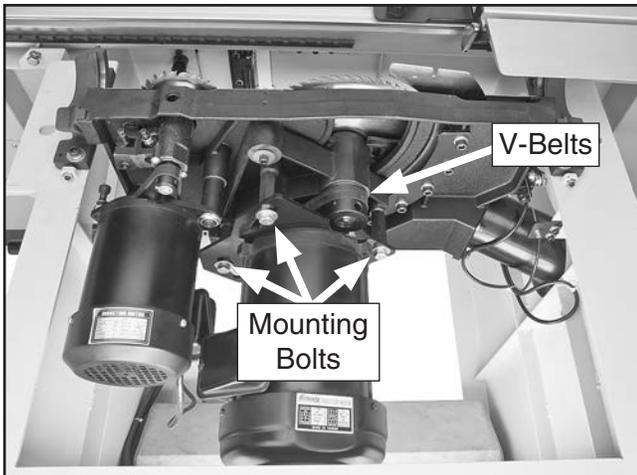

Figure 138. Locations of main motor mounting bolts (cast iron table removed).
2. Loosen the three mounting hex bolts shown in **Figure 138** to allow the motor to rotate.